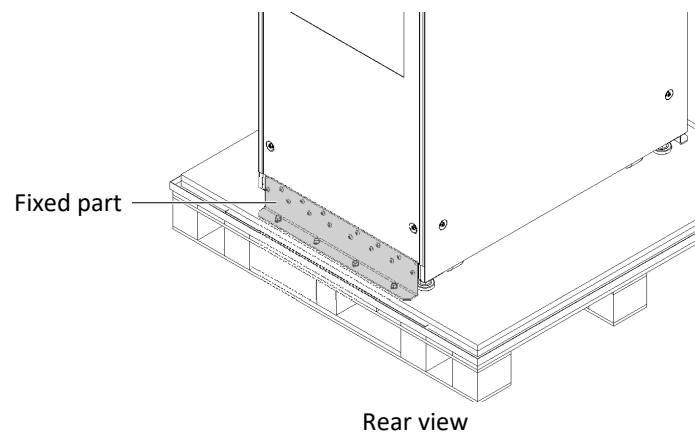

Figure 2-5 Removing bottom fixed part
3. Open the front door of the UPS, loosen the fixing screws and remove the bottom fixed part at front of the cabinet. Then loosen the fixing screws and remove the bottom fixed part at back of the cabinet. As shown in Figure 2-5.